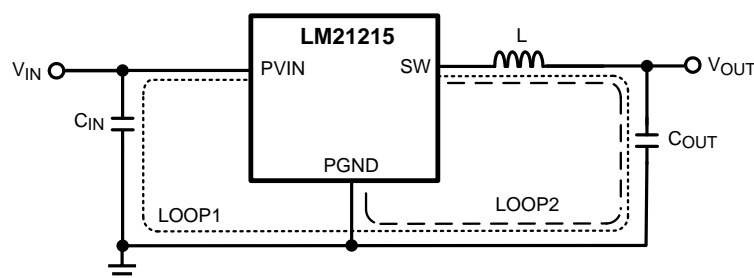

Figure 37. Schematic of LM21215 Highlighting Layout Sensitive Nodes
1. Minimize area of switched current loops. In a buck regulator there are two loops where currents are switched at high slew rates. The first loop starts from the input capacitor, to the regulator PVIN pin, to the regulator SW pin, to the inductor then out to the output capacitor and load. The second loop starts from the output capacitor ground, to the regulator GND pins, to the inductor and then out to the load (see Figure 37). To minimize both loop areas, place the input capacitor as close as possible to the VIN pin. Grounding for both the input and output capacitor must be close. Ideally, a ground plane should be placed on the top layer that connects the PGND pins, the exposed pad (EP) of the device, and the ground connections of the input and output capacitors in a small area near pin 10 and 11 of the device. The inductor should be placed as close as possible to the SW pin and output capacitor.